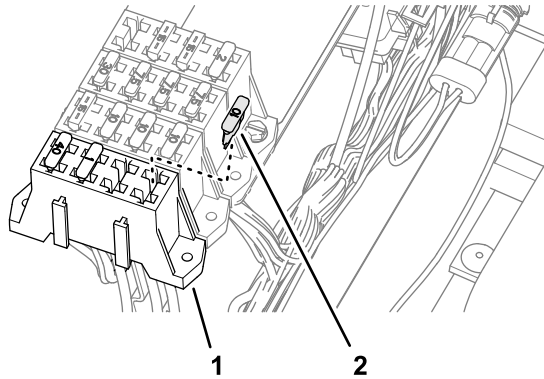

**Figure 154**
1. Plug the terminal of the modem power harness labeled SWITCHED into the socket connector for options power of the fuse block (Figure 154).